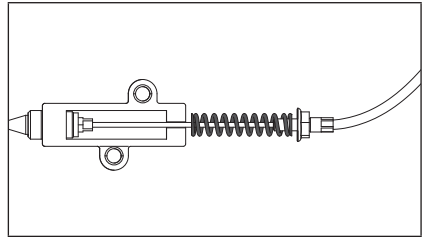

Figure 92
7. Remove spring assembly. (Fig. 92)